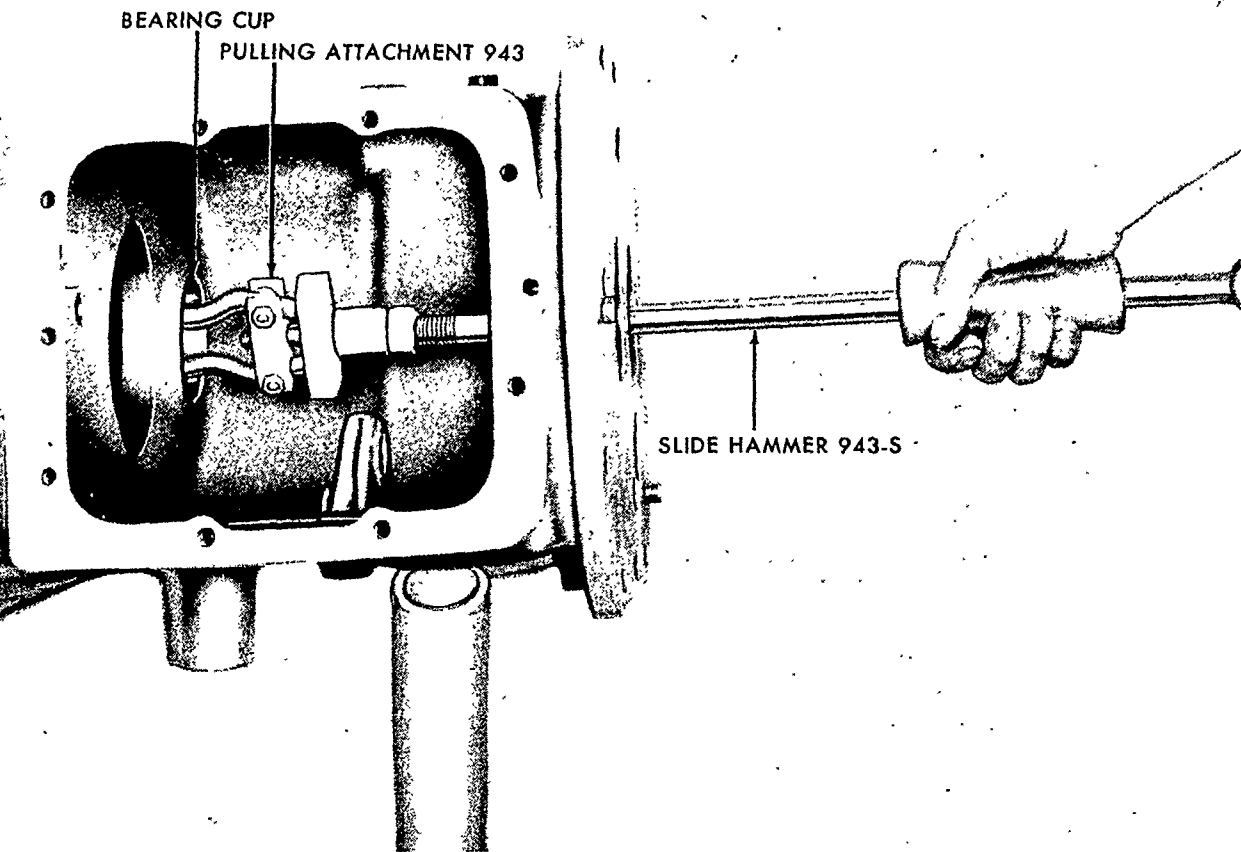

Figure 13
1. Remove the countershaft front bearing cup from the transmission housing with Bearing Cup Pulling Attachment No. 943 and Slide Hammer No. 943-S as shown in Figure 13.